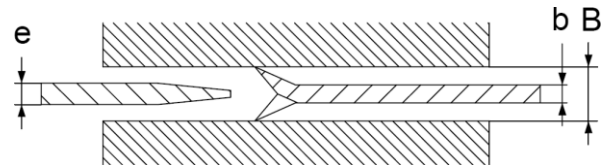

Fig. 26
1. Riving knives shall have a thickness less than the width of a cut (kerf) and at least 0.2mm greater than the saw blade plate. As shown in **Fig. 26**.